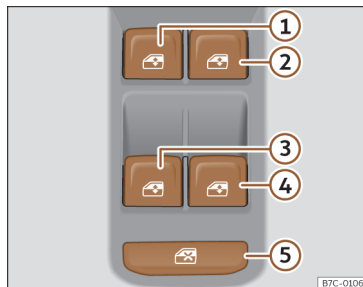

Fig. 87 Detail of the driver's door: window controls.
The safety control >>> **Fig. 87** ⑤ on the driver's door can be used to disable the electric window buttons on the rear doors.